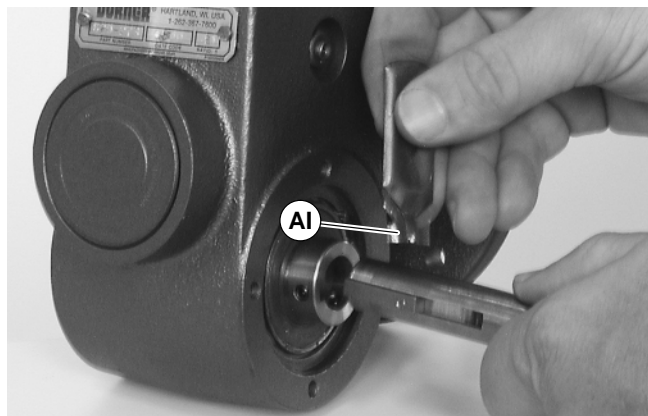

Figure 17
9. Apply grease (AI of Figure 17) to shaft.